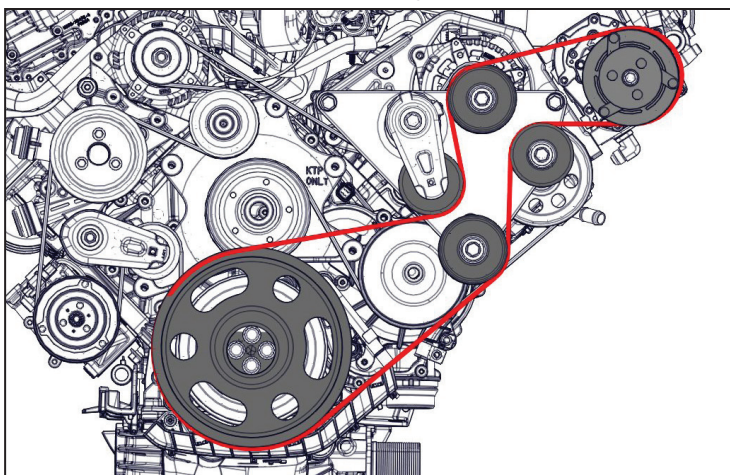

Figure 58 — VMAC belt routing
- ☐ Install and tension the VMAC drive belt (Figure 58).